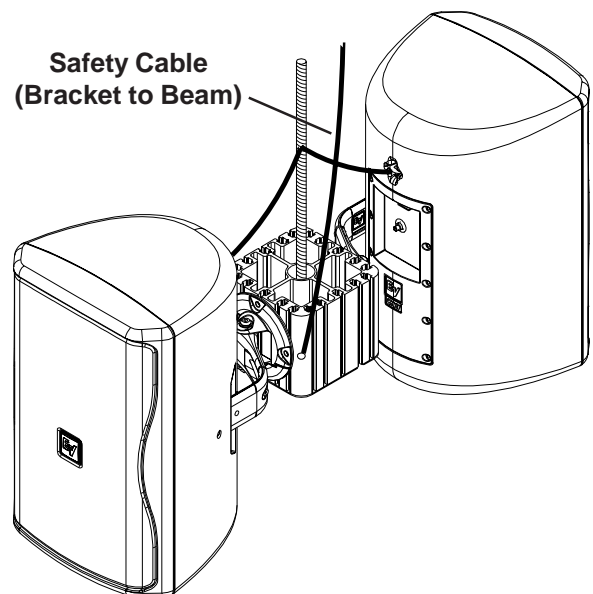

Figure 6b:
5. It is strongly recommended that an additional safety cable be attached from the array bracket to a point on the beam for added safety. Loop through the corner hole of the array bracket to a point on the beam that the threaded rod is attached to (Figure 6b).